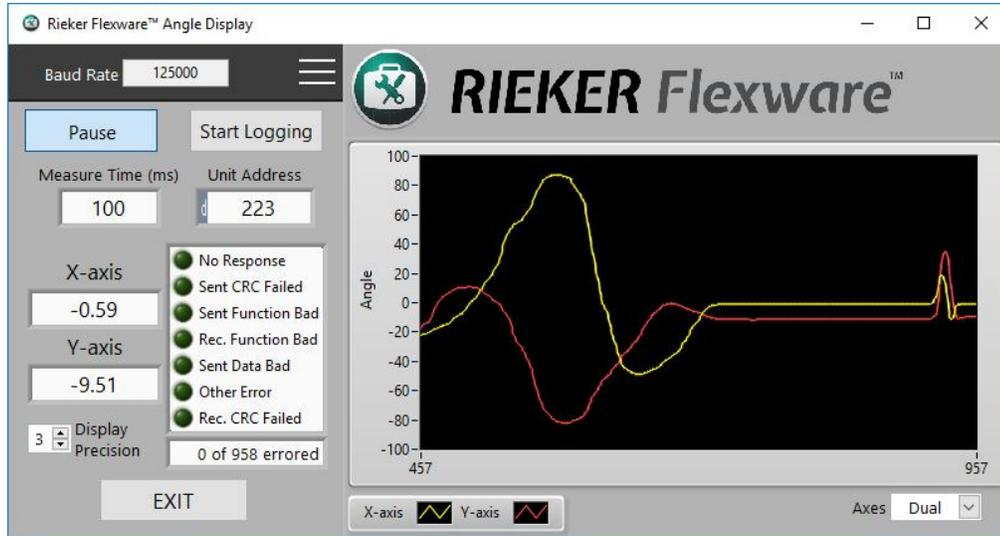

FIGURE 11: Angle Display Running
4. Click “Start” to begin measuring data from the sensor. The sensor’s angle output should begin displaying on the graph and in the numeric boxes. (Figure 11)